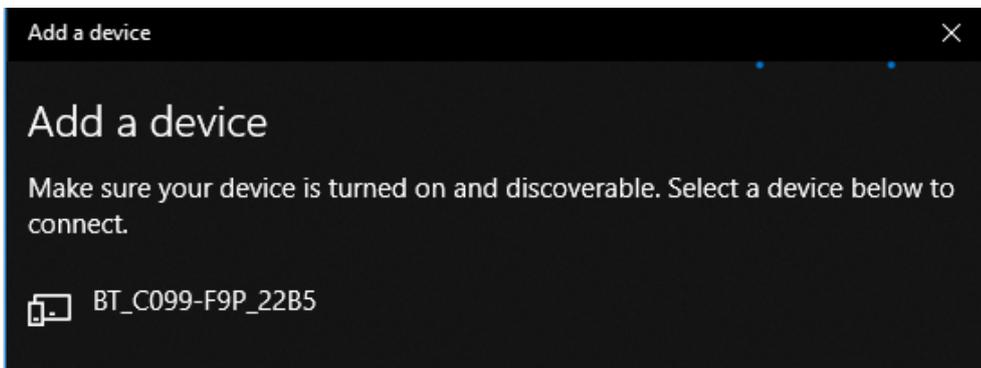

Figure 22: Windows 10 menu for adding a Bluetooth device
- Next, perform a Bluetooth scan to find the C099-F9P board. Every C099-F9P has a predefined, unique Bluetooth name in `BT_C099-F9P_XYZW` format as shown in Figure 22.